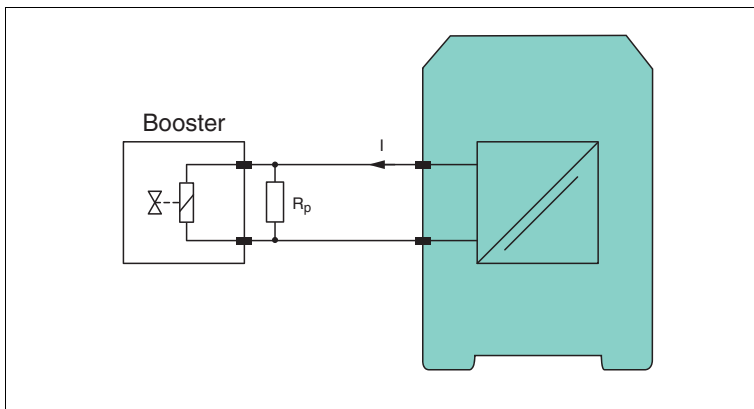

Figure 6.3 Parallel connected resistor near booster valve
1. If the parallel resistance R_p is large, or putting it another way, the closed circuit current I_{quiet} of the valve is low, the capacitor C may under certain circumstances be charged, causing the valve to actuate unexpectedly. The remedy in this case is to connect a $R_p = 4,7\text{ k}\Omega$ to $10\text{ k}\Omega$ parallel resistor to the valve terminals (→ see Figure 6.3 on page 15).